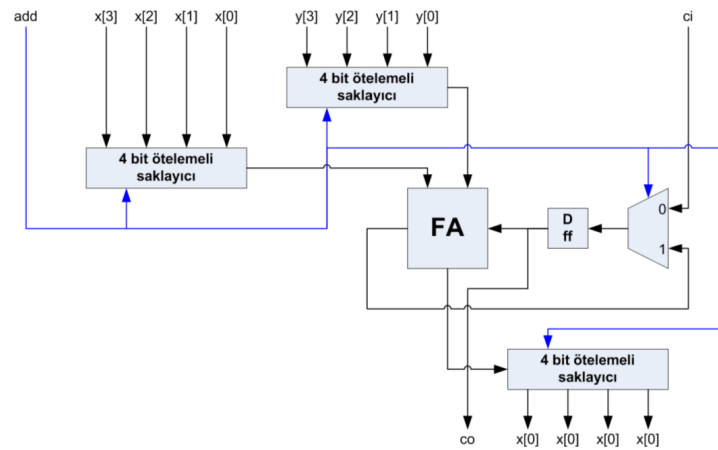

Figure 4: Serial Bit Adder
1. Write down your serial bit adder circuit to a new module called **SBA**. This module is going to have 4-bit inputs **x**, **y**, 1-bit carry input **ci**, 1-bit permission input **add** and 1-bit output carry out **cout**, 4-bit sum output **s**. A structure is shown in Figure 4.